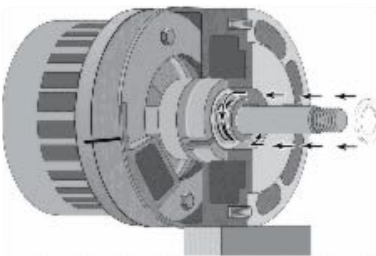

Figure 35
6. Push the shaft seal and seal spring onto the shaft, after making sure that the seal faces and shaft are clean. Take care that the shaft does not damage the carbon seal face. Follow the seal spring with the spring holder; compress the spring and give the spring holder a quarter turn to lock it under the first shaft key (see Figure 35).